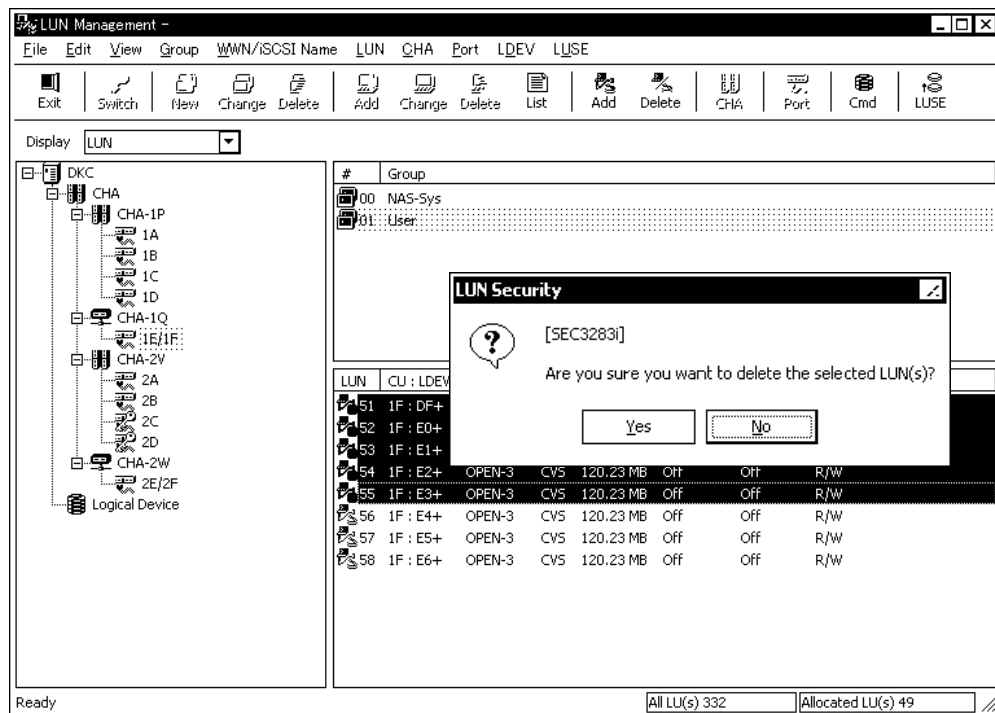

Figure 11.2.3 Main Window
When the port of “NAS” in the tree view is selected (CL) and the Display is set as “LUN”, “NAS-Sys” of the Group#00 and “User” of the Group#01 are displayed in the upper right list. Select “User” of the Group#01. (In an example shown in Figure 11.2.3, select the NAS port, 1E/1F from the tree diagram.)
- ① Select (CL) “User” of the Group#01 from the upper right list.
- ② Select (CL) a LUN from the lower right list.
- ③ Select (DR) [Delete] from the [LUN] menu in the Main window (Figure 11.2.3).
- ④ Since a message asking for a confirmation is displayed, select (CL) the [Yes] button.
- ⑤ Information on the LUN that has been selected from the lower right list is deleted.